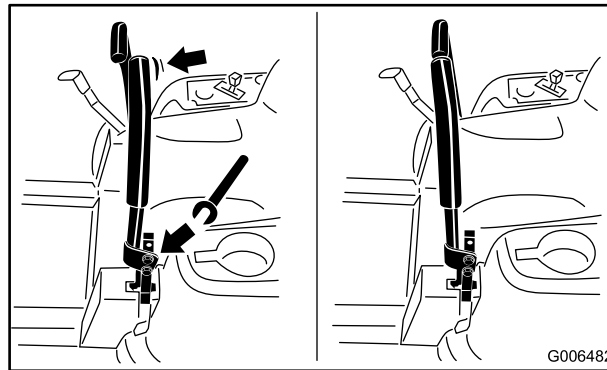

Figure 5
4. Verify the motion control levers are properly aligned (Figure 5). Adjust as necessary. Tighten all fasteners.